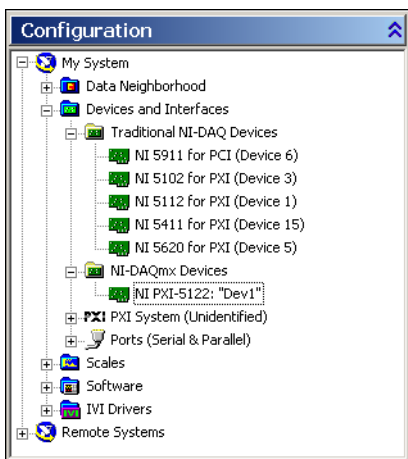

Figure 7. MAX Configuration Tree
2. Double-click **Devices and Interfaces** to see the list of installed devices. MAX automatically detects the installed device. The Configuration Tree lists both Traditional NI-DAQ devices and NI-DAQmx devices, as shown in Figure 7.